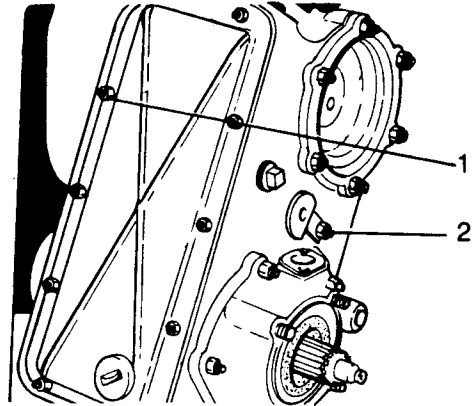

Fig H2.14
- (5) Refer to Fig H2.14. Replace the lock washer, washer and retaining nut (2) on the shaft.
- (6) Replace the joint washer cover, and the fixings (1).
- (7) Replace the transmission brake (see Sub-sub-section K2.4, Chapter 2).